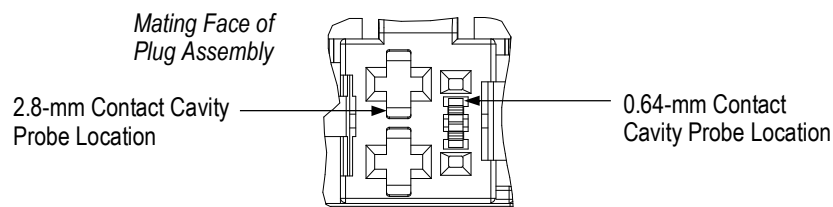

Figure 4
2. From the mating face of the plug assembly, insert the appropriate test probes into the test probe window of each contact cavity using a force of no more than 10 N [2.25 in.-lb]. Refer to Figure 4 for probe locations.